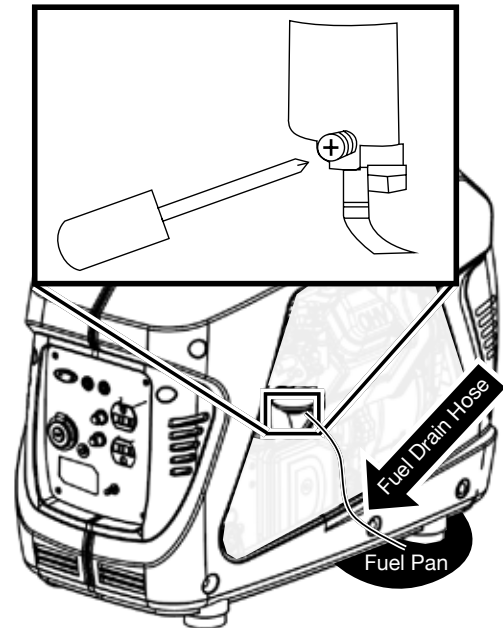

Figure 16: Locate Fuel Drain Screw and Fuel Drain Hose
3. Loosen the float bowl drain screw (see Figure 16) until fuel is seen draining from the float bowl.